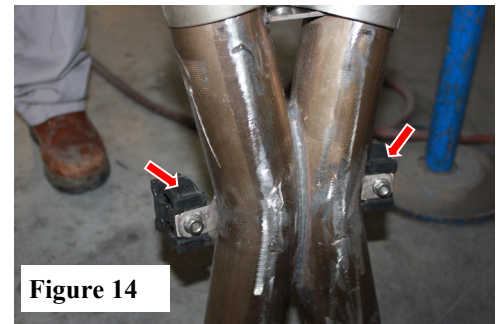

Figure 14
5. Place X-Pipe Assembly over installed DP Assemblies as shown. **DO NOT TIGHTEN.** (See Figs. 14 & 15)